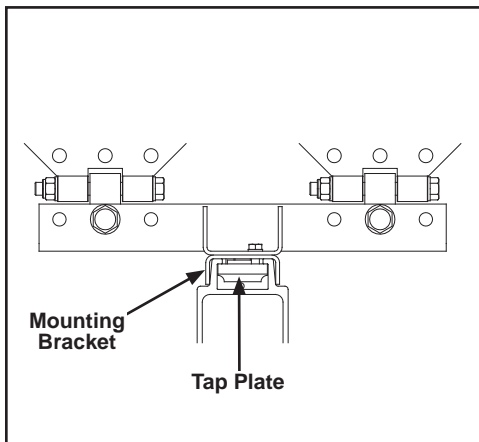
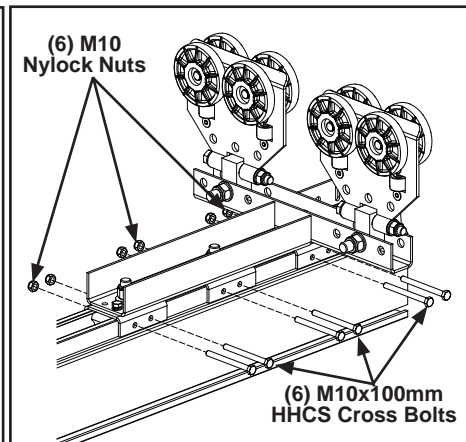

Figure 3-91
Figure 3-92
- Step 1. Remove cross bolts from the three (3) mounting brackets and slide rail mounting brackets on top of bracket channel and the three (3) tap plates into bracket channel at top of runway rail. See Figure 3-91 and Figure 3-92.